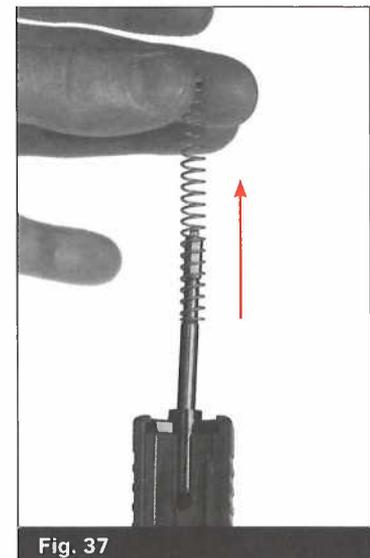

Fig. 37
- Take the spring off the firing pin. (Fig. 37)